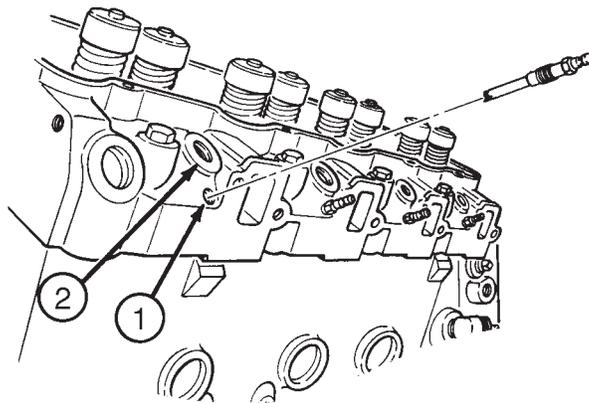

Figure 4-2. Damaged Glow Plug Removal
C. GLOW PLUG TIP REMOVAL (DAMAGED OR BROKEN) (Figure 4-2)